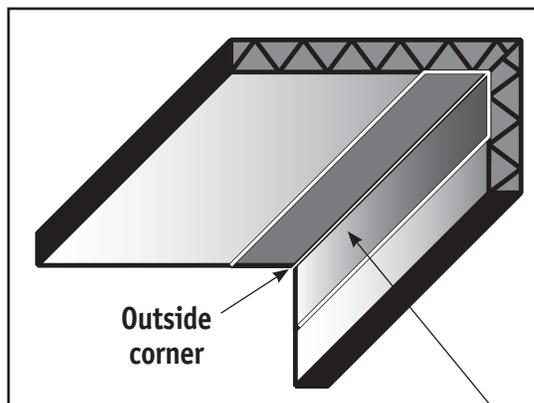
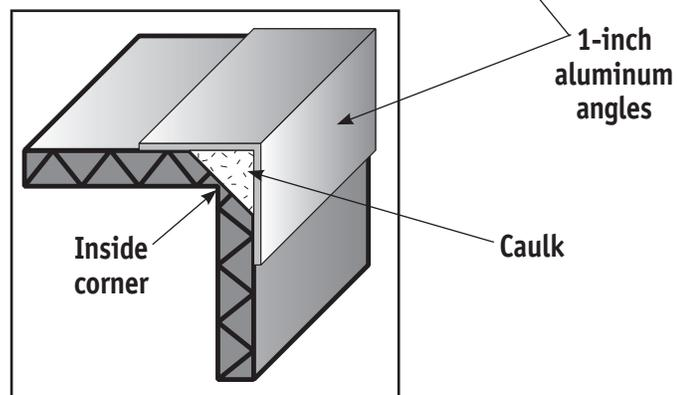

Figure 18
Figure 19
**Figure 18** shows an outside corner panel. **Figure 19** shows an inside corner panel. Again, both panels have been routed on the back and then folded as required.